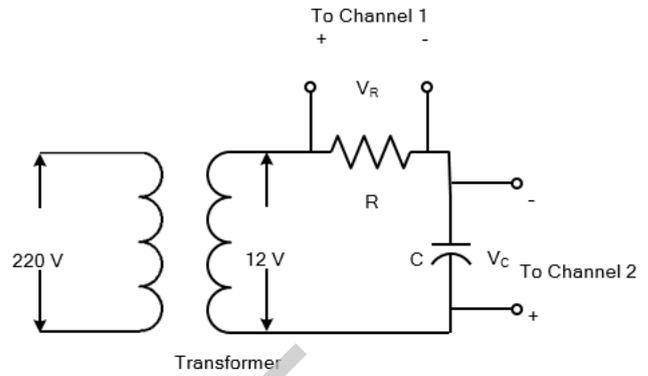

Figure 4: Experimental setup for R-C circuit
8. Make connections for the R-C circuit shown in Fig. 4 and repeat steps 2 to 7 for the R-C circuit. Record the readings in Table